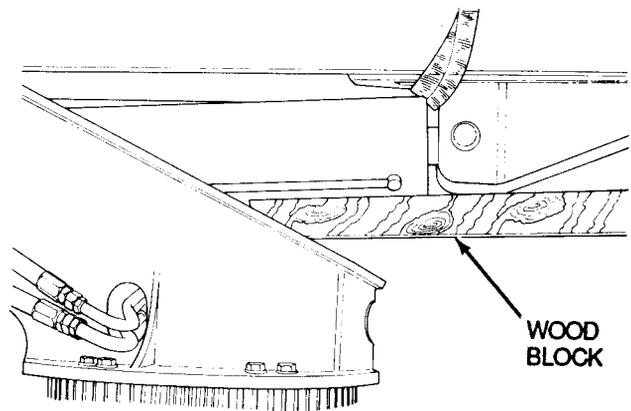

Figure 15-3
12. Place wood block to support boom hoist cylinder (Figure 15-3). Hold anti-two block BY-PASS switch down and lower boom hoist cylinder onto wood block. Shut engine off.